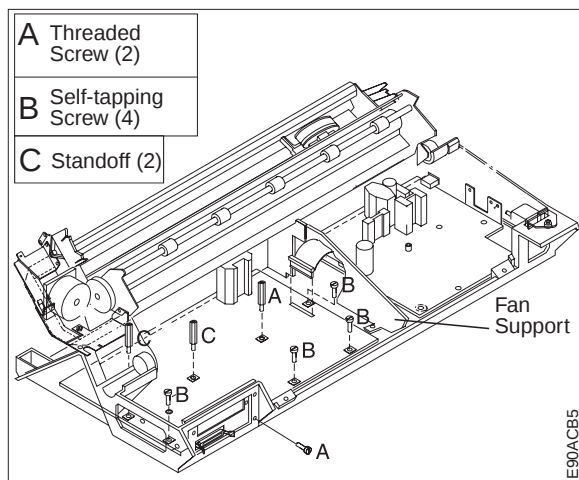

Figure 112. Logic Board Screw Type Locations
7. Remove the 6 mounting screws and 2 standoffs. Note the type and location of each screw (see Figure 112). There are 4 self tapping screws and 2 threaded M3x6 screws.